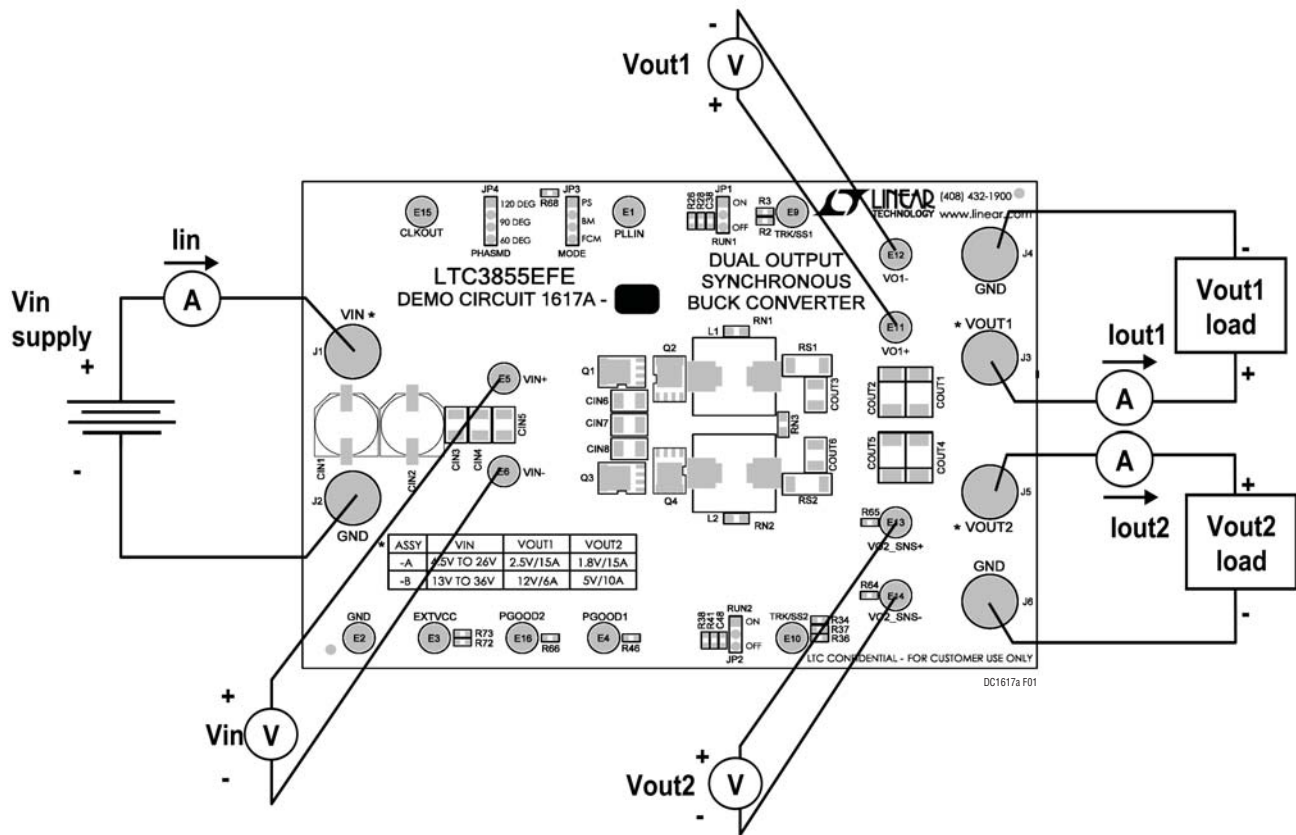

Figure 1. Proper Measurement Equipment Setup.
Demonstration circuit 1617A is easy to set up to evaluate the performance of the LTC3855EFE. Please refer to Figure 1 for proper measurement equipment setup and follow the procedure below.
1) With power off, connect the input supply, load and meters as shown in Figure 1. Preset the load to 0A and V_{IN} supply to be 0V. Place jumpers in the following positions: